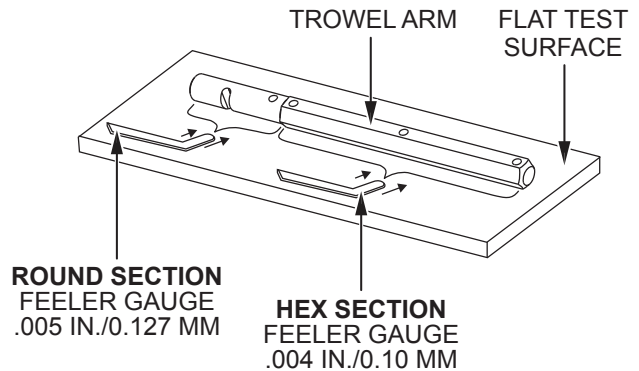

Figure 74. Trowel Arm Inspection
1. Place the trowel arm on a thick, steel plate, granite slab, or any other surface which is **true** and **flat** (Figure 74).
2. Check each of the six sides of the trowel arm hex section (Figure 74). A feeler gauge of .004 inch (0.1 mm) should not pass between the flat of the trowel arm and the test surface at any point along the length of the test surface.
3. As the flat hex section rests on the test surface, use a feeler gauge of .005 inch (0.127 mm) to check the clearance between the round shaft section and the test surface. Rotate the arm to each of the flat hex sections and check the clearance between the round shaft and the test surface. The clearance between the round shaft and the test surface should be identical for each hex section. See Figure 74.